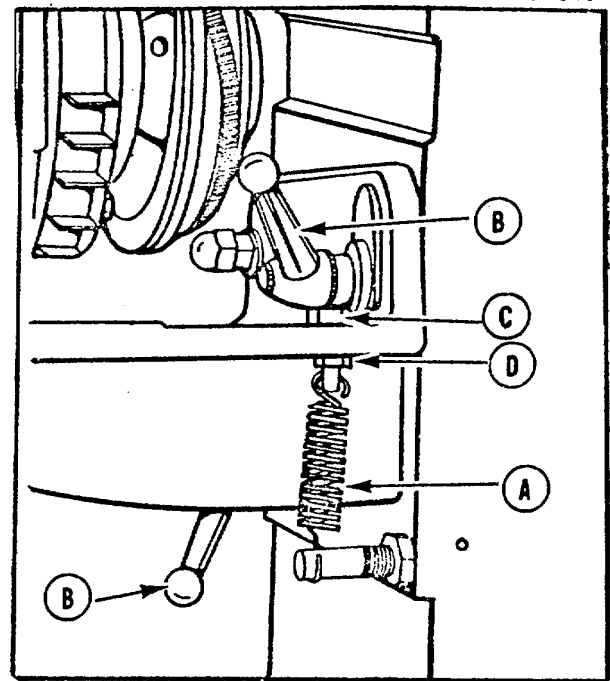

Fig. 15.
The belt tensioning spring (A) Fig. 15, is adjusted at the factory to supply correct belt tension (5/64" deflection with five pounds thumb pressure in center of span) for the motor to countershaft belt. If the belt tensioning spring ever needs to be adjusted to increase or decrease tension of the belt, proceed as follows:
1. Loosen the motor plate clamping levers (13) Fig. 15.
2. To increase tension, loosen nut (D) Fig. 15, and tighten nut (C) until correct tension is obtained.
3. To decrease tension, loosen nut (C) Fig. 15, until correct tension is obtained and tighten nut (D).